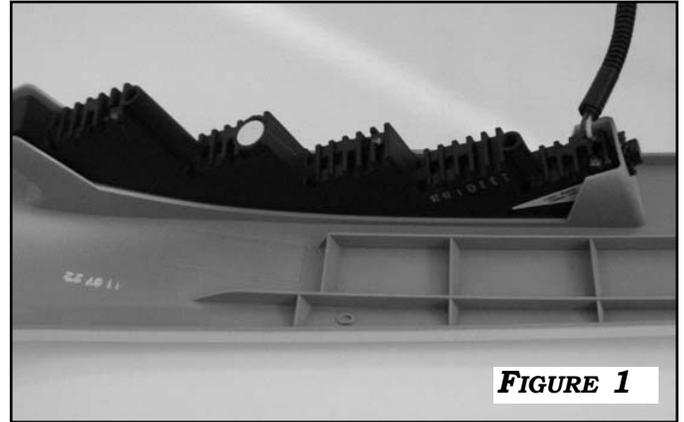

FIGURE 1
1. PLACE DRL LED LIGHTS INTO RIGHT AND LEFT SIDE TUNDRA PANELS. **FIGURE 1**